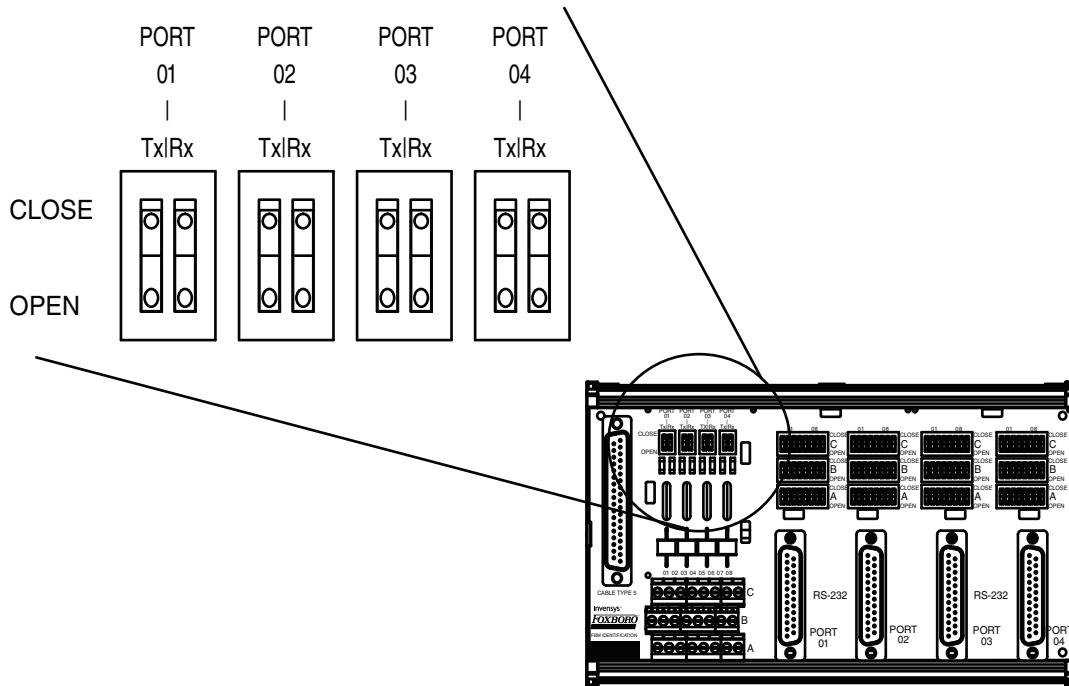
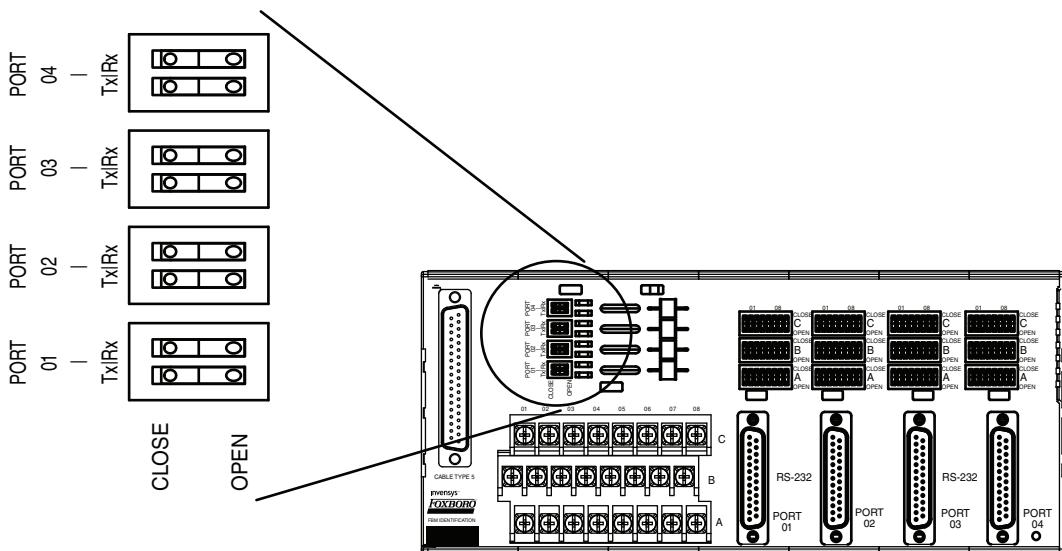

Figure 4-12. Compression Screw TA RS-422 and RS-485 Termination Switches
Figure 4-13. Ring-Lug TA RS-422 and RS-485 Termination Switches
- f. Set all RS-422/RS-485 bus termination switches for the channel to the open position (see Figure 4-12 on page 37).
2. Press the required termination switch on the TA to the CLOSE position (termination) (refer to Figure 4-12 for compression screw TAs and to Figure 4-13 for ring-lug TAs) for each cable requiring termination. This provides line termination by inserting termination resistors across the line.
3. Terminate Ports 1, 2, 3 and/or 4 (if used) in the same manner (see Figure 4-12).